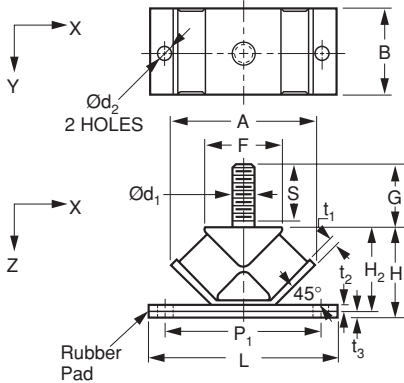

Fig. 2 With Base Plate
- For the base plate attached type (Fig. 2), a rubber pad is fitted to the base plate so that the machine can be placed on the floor.